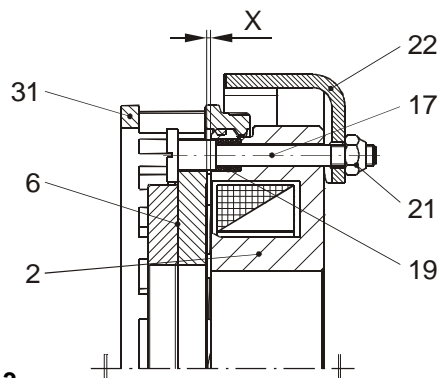

Fig. 3
For the adjustment dimension X (air gap between armature disk (6) and coil carrier (2)), see Table 2 and Fig. 3. Measurement of the adjustment dimension takes place via the open distance ring (31).